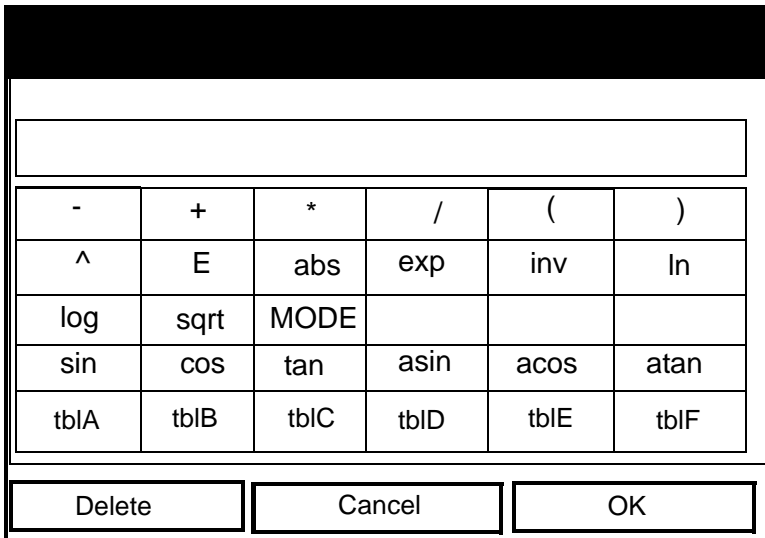

Figure 4-23: The Function Creation Window
- c. When you have completed the entry, press [F3] (OK) to confirm the symbol, or [F2] (Cancel) to leave the window without adding the symbol.
- a. Press [ENTER] to open the function creation window, which appears similar to Figure 4-23 on the next page.